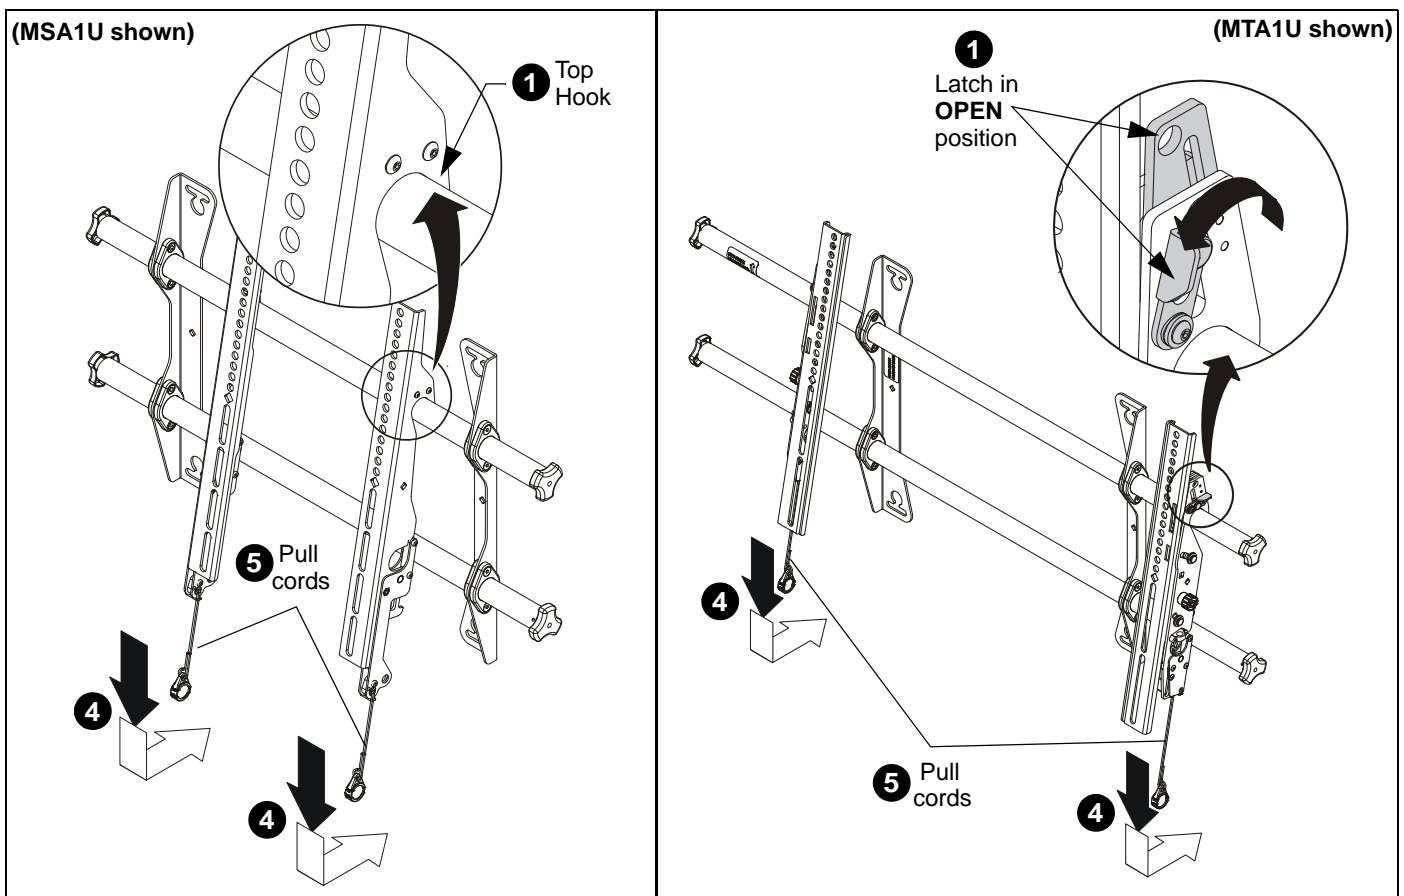

Figure 9
1. Hang screen onto the top rail of the mount (CC). (See Figure 9)
- **MSA1U / LSA1U:** Hang top hook of interface brackets (V and W) onto the top rail of the mount (Z). (See Figure 9)
- **MTA1U / LTA1U:** Move latch on top of interface bracket to OPEN position and hang top hook of interface brackets (X and Y) onto the top rail of the mount (Z). (See Figure 9)
4. Pull downward on the pull cords and swing inward toward wall, latching interface brackets to lower rail and fastening bottom of screen to the mount. (See Figure 9)
5. Attach end of pull cord (a magnet) to mount so it does not extend beyond bottom of screen. (See Figure 9)